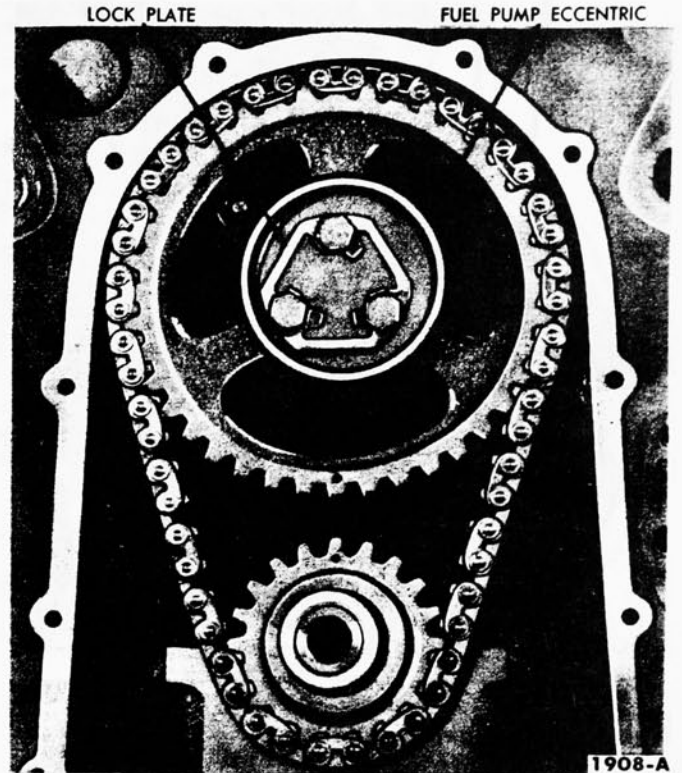

FIG. 42—Fuel Pump Eccentric Installed
6. Install the fuel pump eccentric, lock plate, and screws (Fig. 42). Install the crankshaft front oil slinger.